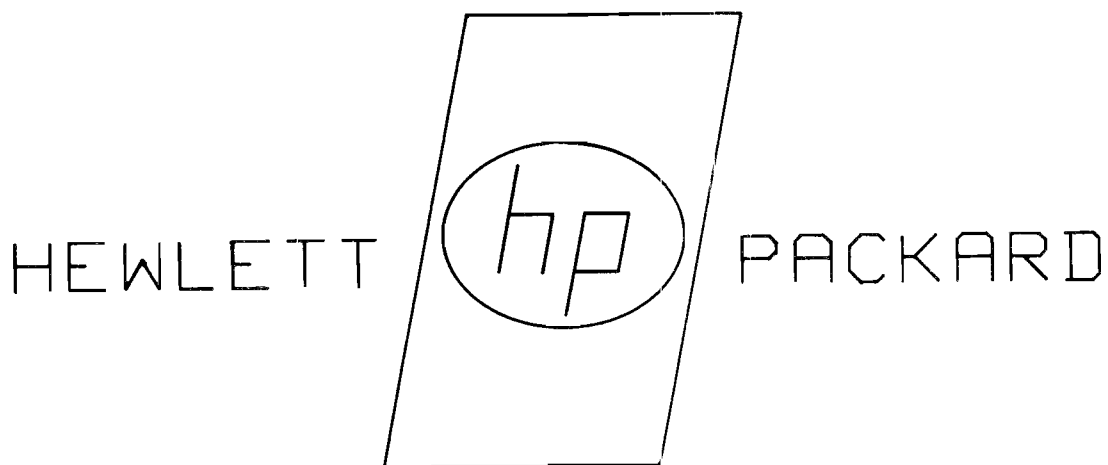

Figure 2-5:
4. Compare the finished plot with the sample shown in Figure 2-5. Some variation between your plot and the sample plot may exist due to the varied increment size and resolution among different plotters. The plot, however, should be reasonably similar to the sample.